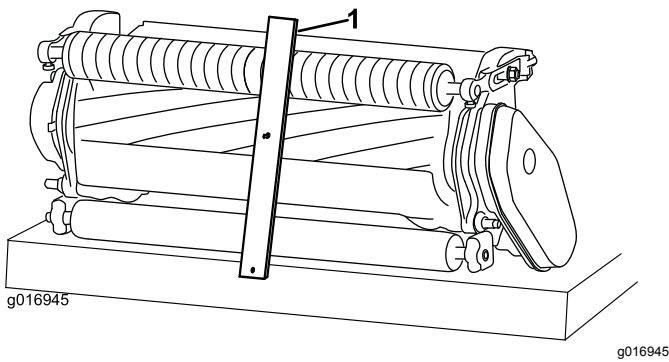

Figure 15
2. Hook the screw head of the height-of-cut gauge bar onto the right side of the cutting edge of the bedknife and rest the rear end of the bar onto the rear roller (Figure 15).